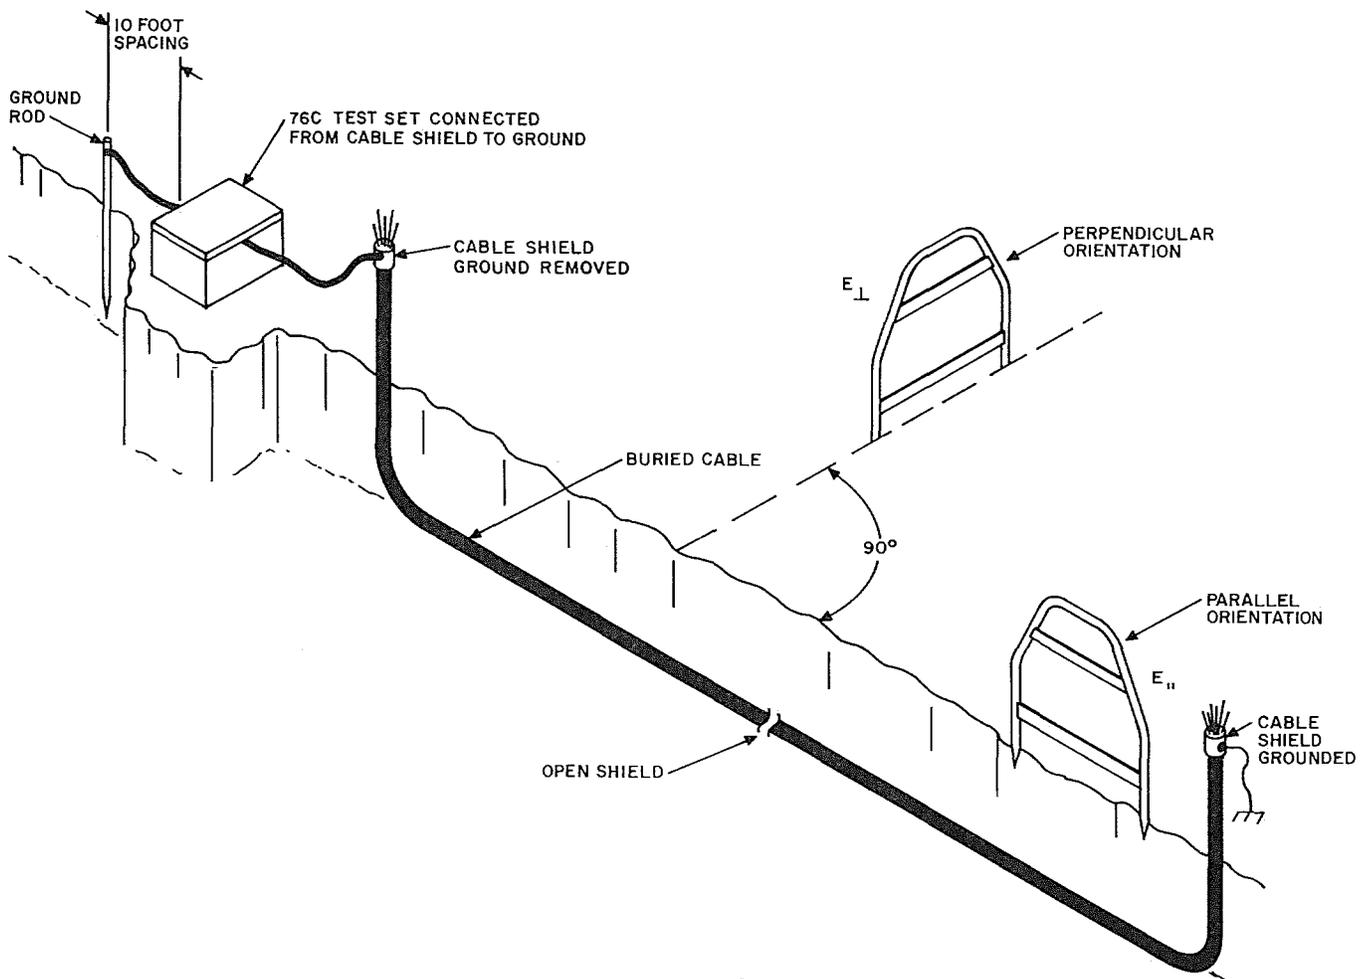
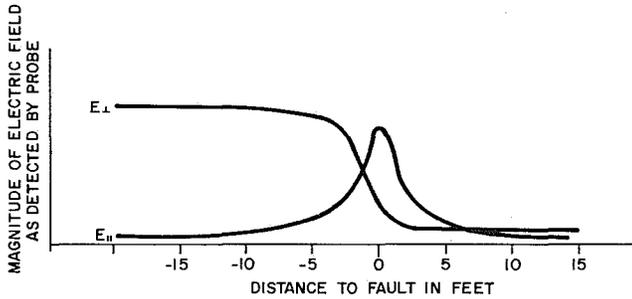

Fig. 6—Locating Open Shield Faults
Fig. 7—Signal Levels
- (1) Connect a 76C test set or equivalent between the cable shield (Fig. 6) and ground.
- (2) As shown in Fig. 6, the ground for the signal source should be placed 10 feet from the end of the cable and in line with the cable in order to minimize distortion in the field pattern.
- (3) Connect a headset to the REC jack and the probe cord to the INPUT jack of the 147-type amplifier.
- (4) Place the AMPLIFIER SWITCH to the PROBE position.
- (5) The headset is preferred over an open speaker since it allows the employee to detect lower level signals.
- (6) The probe should be used in a PERPENDICULAR orientation along the cable path *away* from the signal source and slightly to the *side* as shown in Fig. 6.
- (7) To minimize the amount of probing, an occasional sample should be made to determine
- (8) By retracing steps, establish the **zone** where the signal is stronger (Fig. 7).
- 4.05 When the zone has been established, sampling must be over shorter increments. Position the probe PARALLEL to the cable and if possible directly above as shown in Fig. 6. The location of the open shield fault is pinpointed when the signal is at its **maximum peak** as shown in Fig. 7.